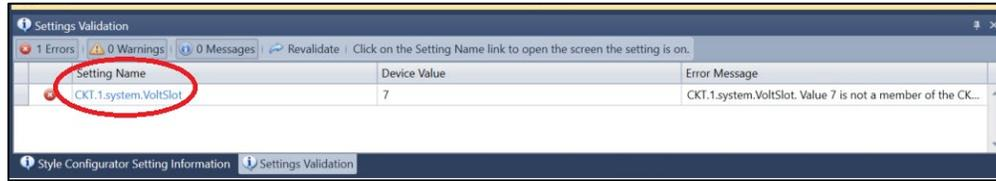

Figure 4-23. Settings Validation Screen
- Step 4. View the Settings Validation window (Figure 4-23) on the bottom of the BESTCOMSP*lus* window. Click Revalidate. This will display all validation errors in the settings file, including errors caused by the new board configuration.